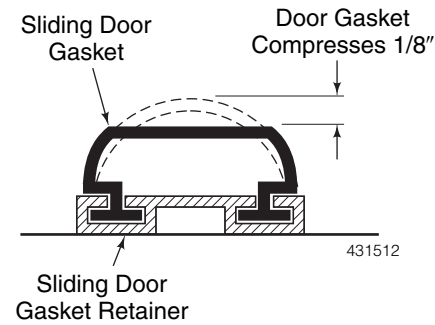

Figure 13
1. With the door in the closed position, the gasket should be compressed 1/8". Check the gasket at the four corners of the door for proper compression. See Figure 13.
2. Inspect the Sliding Door Gasket for proper 1/8" compression and light-tight seal. *See Figure 13.*